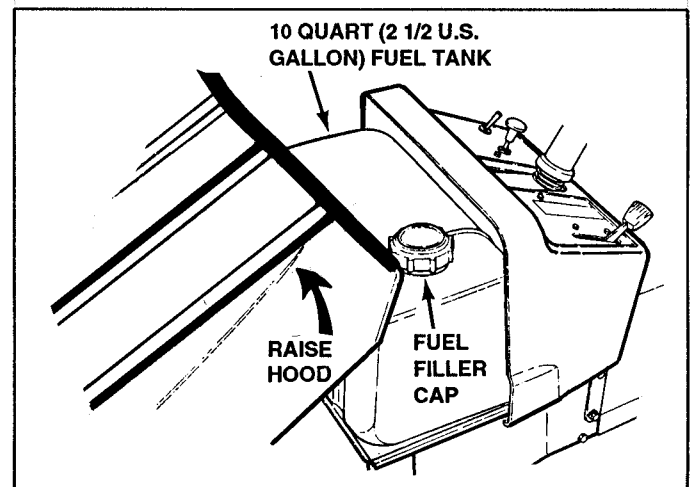

Figure 3: FUEL TANK UNDER HOOD
4. **CHECK FUEL** and add gasoline (of grade specified in engine manual) to bring the level up to, but not higher than the **FULL** line on side of tank. See Figure 3.